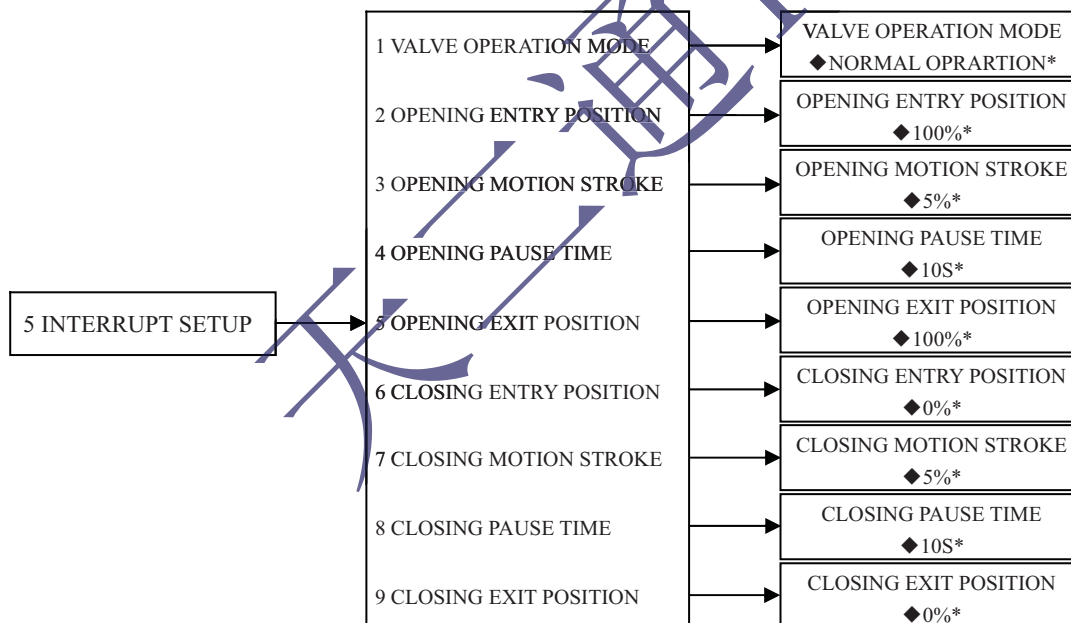

Fig.9
4.6 Interrupter setup (see Fig.9)